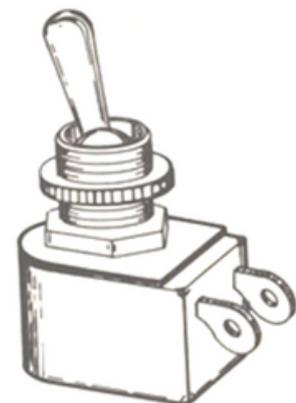

Figure 2.2.6
- Figure 2.2.6 show that the mechanical-interlocked toggle pushbutton with NO (normally open) and NC (Normally close) contacts.